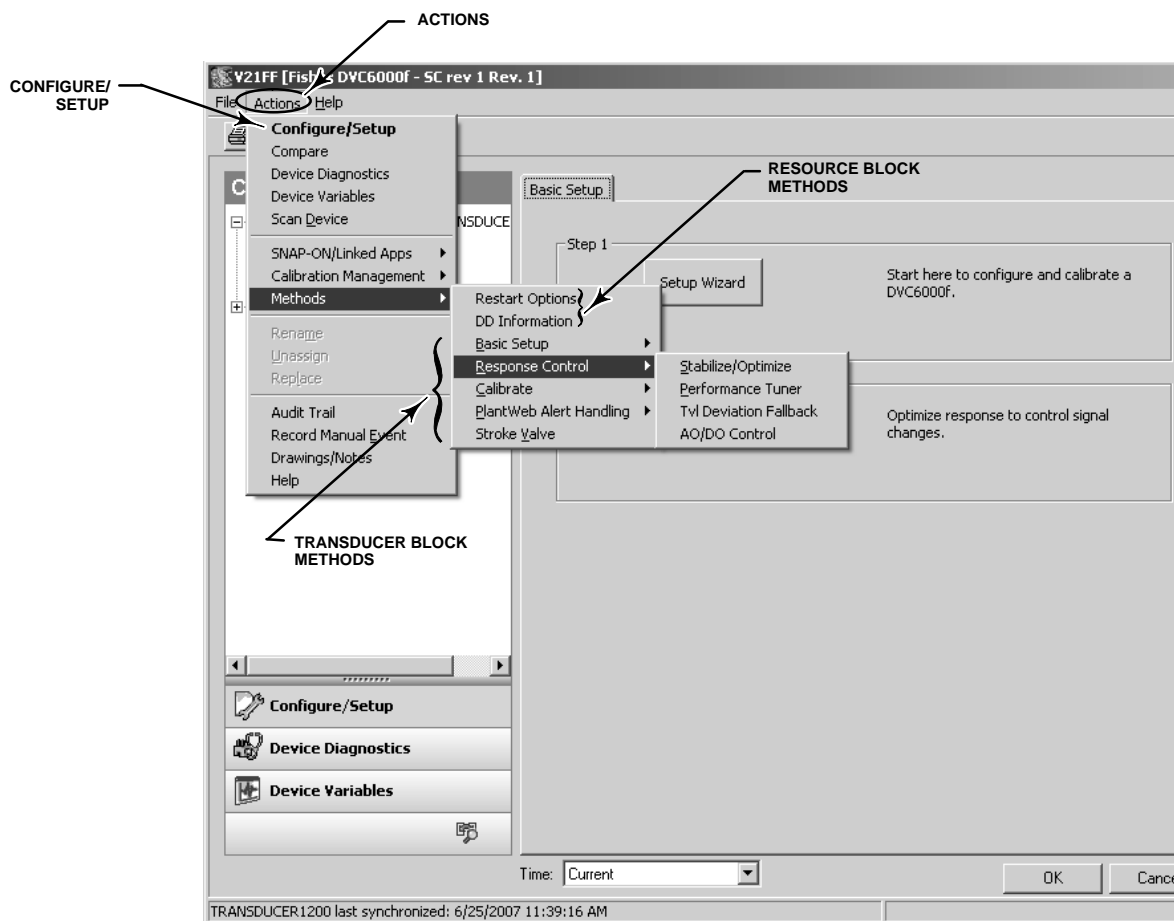

Figure F-3. Actions Menu
5. Locate Methods in the Actions menu, as shown in figure F-3 and right-click once.
The Restart Options method and the DD Information method are available via the resource block. Refer to figure F-3 and the following steps to access these methods.
5. Locate Configure/Setup in the Actions menu (see figure F-3) and left-click to access Configuration and Setup parameters.
5. Locate Configure/Setup in the Actions menu (see figure F-3) and left-click to access Configuration and